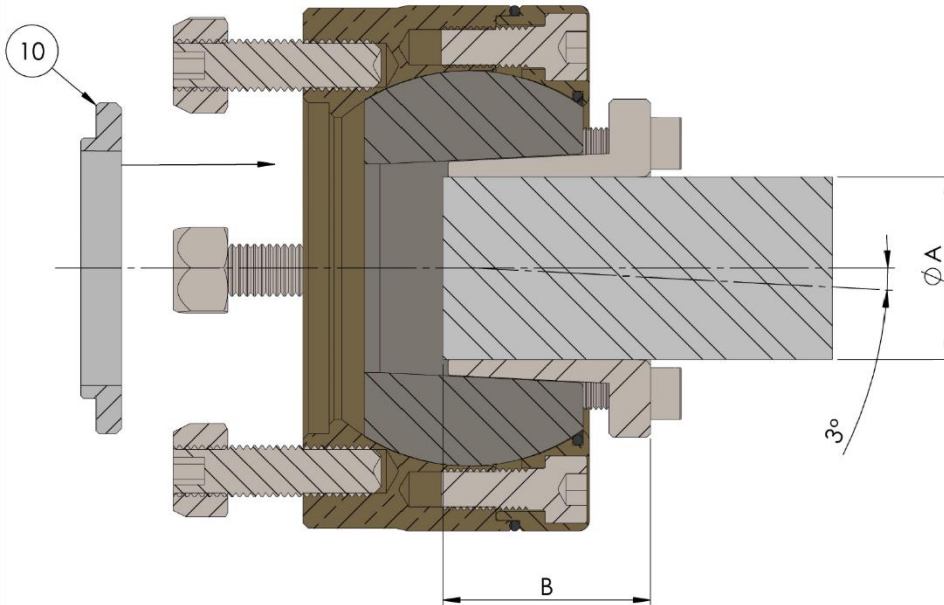

Fig 2. SigmaDrive angle drawing (Generic drawing for illustrative purposes only)
- Insert the M10 high tensile studs (11) into the corresponding tapped holes to match the gearbox output flange. Lock the studs using the loctite **290** supplied.
- Ensure the output flange register (10) is inserted into the SigmaDrive unit prior to fitting to the gearbox flange. This will ensure the SigmaDrive is centered on the gearbox and should be a snug fit. See Fig 2.
- Please apply a light oil film on the outer surface of the taper lock (7), making sure that the surface between the taper and central sphere (3) is clean and well lubricated. Use WD-40 or hydraulic oil, this will aid removal. Please do not use oil with molybdenum disulfide, high pressure additives or graphite grease on either the shaft or taper lock. These substances notably reduce the friction coefficient for the clamp unit. Do not apply any lubricant between the shaft and the inside of the taper lock (7) surfaces.**
- Carefully slide the clamping unit (7) onto the propeller shaft to the minimum depth indicated in table 2 (See Fig 2 for diagram). Maximum shaft insertion depth is 60mm.